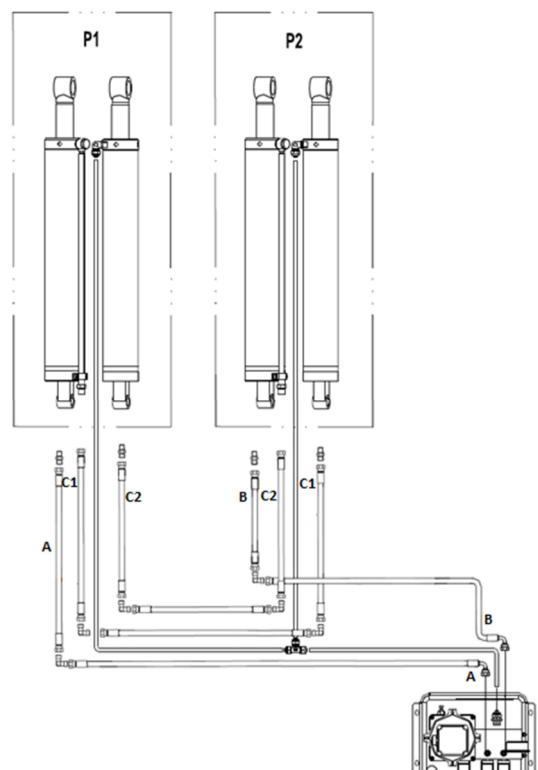

Fig. 4
2. Connect the hoses, take notice to the letters on the hoses, this is self-explanatory. Refer to the hydraulic schedule (fig.4). **CAUTION!** All hoses must be free of dirt and dust, if this is not the case, this might cause the hydraulic system to fail, this might cause serious damage to materials/properties and/or serious injuries.